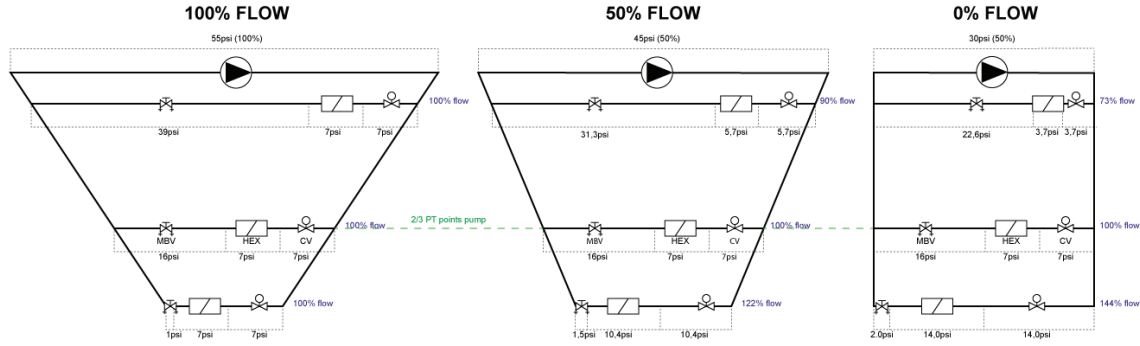

Figure 3 Pressure distribution for different flows in the system.
When the installation is only partially loaded, which is more than 95% of the time, we run into the limitation of the balancing valve and its inability to react to changes in the operating conditions. Because valves will start to close, the dynamics in the system change and the available differential pressures (ADP) will rise. Rising differential pressures mean higher flows. Speed-controlled pumps may provide partial relief for this problem, but it is not the panacea it is usually made out to be, as can be seen in Figure 3.
Now observe what happens to the pressure when we reduce the flow to 50%, as can be seen in the middle figure. The circuit at two-thirds of the installation pressure is still fine, since the pressure is kept constant at the measuring point. However, the ADP for the other circuits is changing. The circuit closest to the pump now has an underflow, even with the valve fully open. If the valve in the circuit furthest from the pump is fully open, as is likely to happen when the control is outside of its P-band, it has an overflow. When the system is on very low loads, or close to 0% flow, as can be seen on the right side of Figure 3, the problem intensifies with bigger over- and underflows occurring.
If the installation is complicated with a lot of branches, it is sometimes difficult to determine where the proper place on the installation you should install the Pressure Transmitter (PT) points of the pump. Based on Figure 3, you can now make a
If there is a low authority, the ADP will rise substantially as the valve is closing. The smallest flow the valve can reliably control will, therefore, be much bigger than expected. To calculate the installed turn-down, we need to multiply the theoretical control ratio with the authority. In our example from Figure 3, that would mean:  $1:50 \times \sqrt{7/55} = 1:18$  (control ratio  $\times \sqrt{\text{nominal differential press} / \text{max. diff. pressure with closed valve}}$ ), so real minimum controllable flow rate is close to 5%.